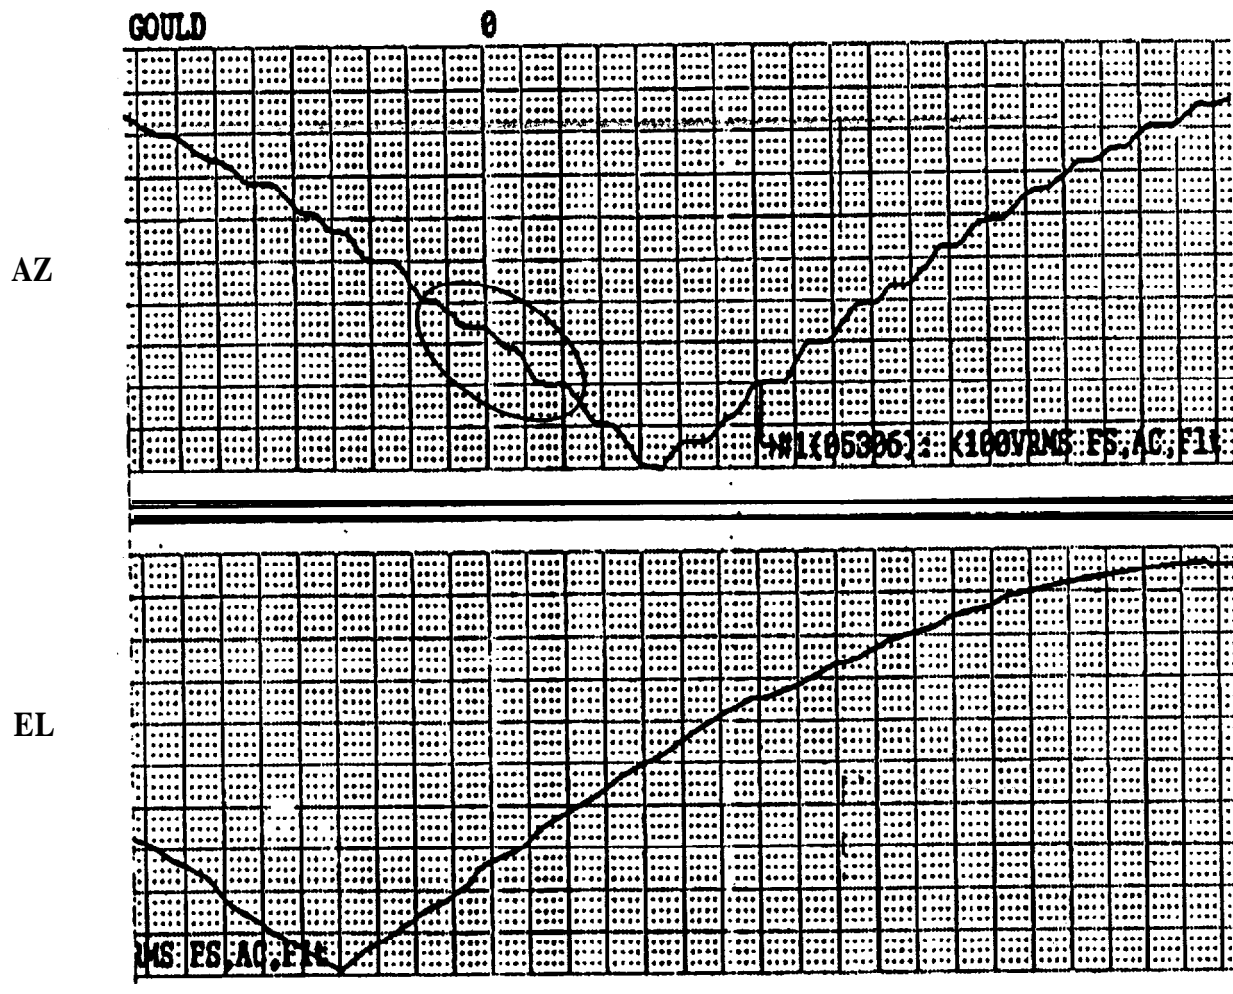

Figure 5-6 Azimuth Servo Gain Low
5.12 Azimuth Servo Gain Low - Figure 5-6 shows the effects of low azimuth servo gain. Note the stepping pattern in the circled area of the trace. The stepping pattern shows that antenna position is lagging radiosonde position indicating slow or “sluggish” antenna response to radiosonde positional changes. The horizontal portion of the “step” indicates no antenna movement. The vertical portion of the “step” indicates antenna movement.